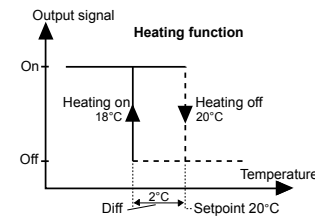

Fig 5
- Diff** Switching differential, 0.5...10K. The difference in temperature between the relays switch-on and switch-off positions. See fig 5 and 6 below.